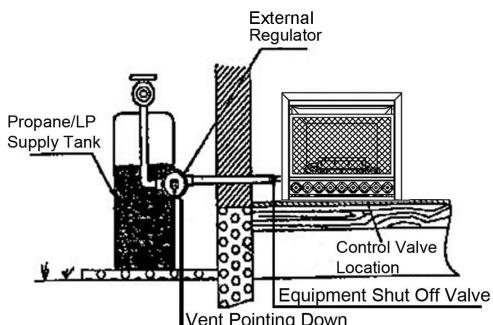

Figure 17- Checking Gas Joints
3. Check all joints from gas meter to equipment shutoff valve (see Figure 17). Apply mixture of liquid soap and water to gas joints. Bubbles forming show a leak.
4. Check all joints from equipment shutoff valve to control valve (Figure 17). Apply mixture of liquid soap and water to gas joints. Bubbles forming show a leak.